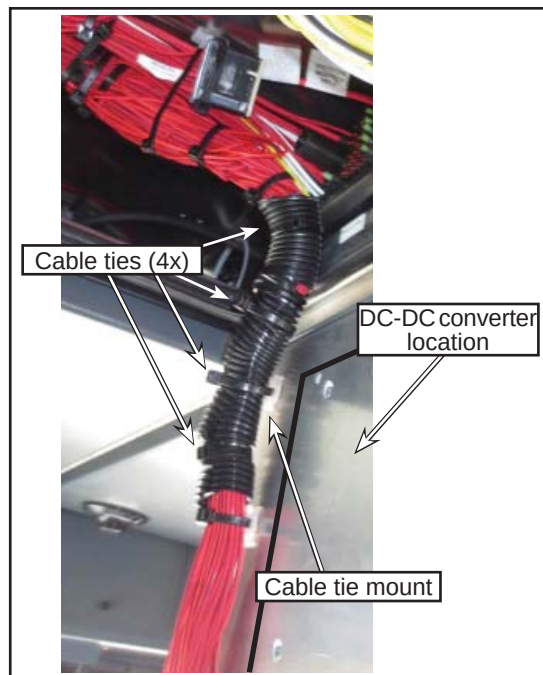

Figure 7 - Four Cable Ties on the Split Convuluted Tubing of the WHA #78 Harness
- 1.23. Install four G5007995 cable ties around the split convoluted tubing with one passing through the cable tie mount. See Figure 7.